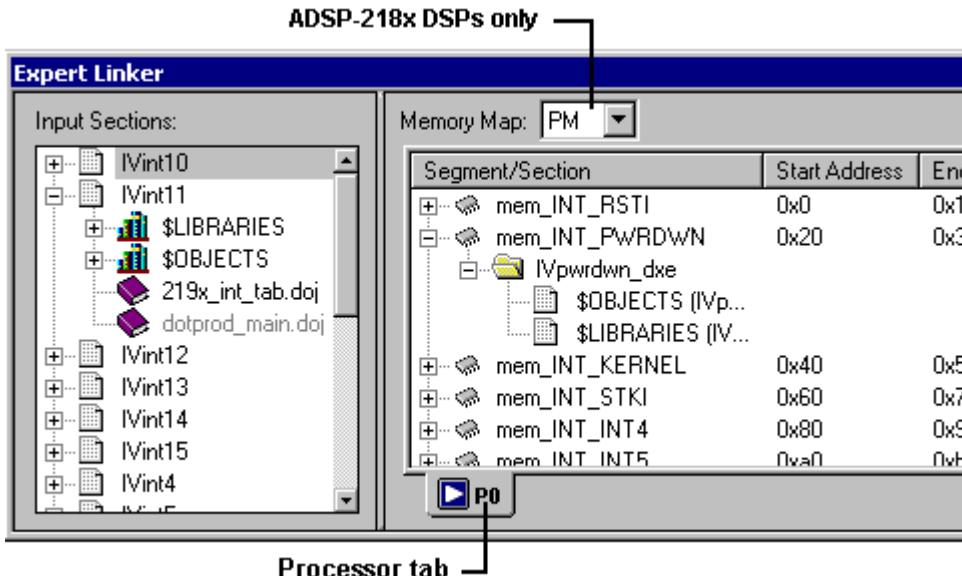

Figure 4-17. Expert Linker Window – Memory Map Tree View
- **Memory Map Tree** – Displays the memory map in a tree representation (see Figure 4-17 on page 4-25)